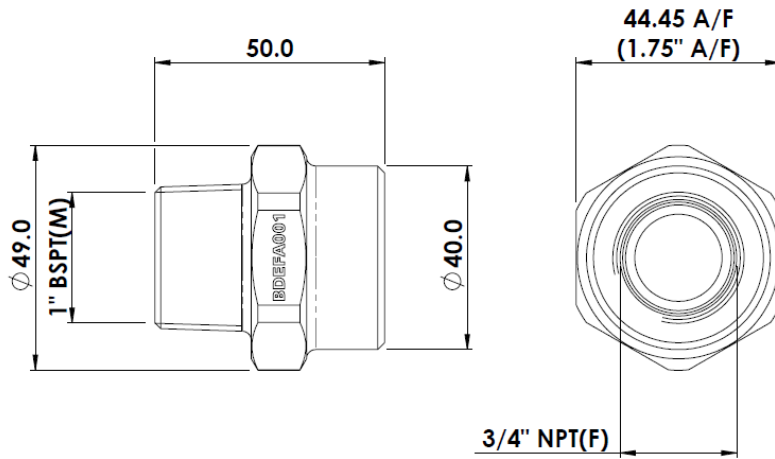

Figure 14 – Details of BDEFA001 Adaptor
| BDEFA001 (Figure 14) | Adaptor, DEF, ¾" NPT(F) x 1" BSPT(M) | ¾" NPT(F) 1" BSPT(M) | Adapts Banlaw DEF receiver to 1" BSPT(F) port and/or OFP components |